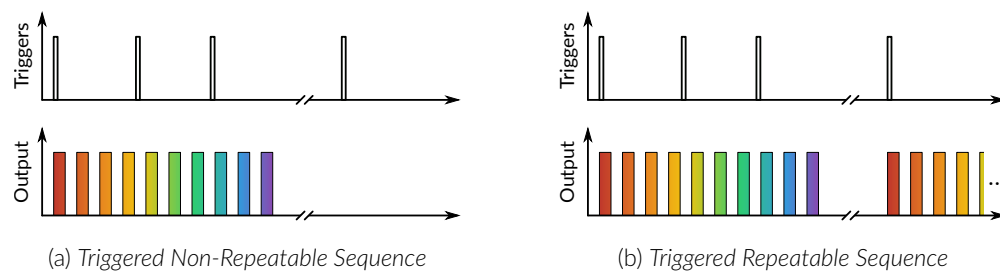

Figure 4.8: Uninterrupted Sequence Mode
- **Uninterrupted:** This mode activates the channel sequence when an input greater than 3.3 V is detected by the BNC input. Following input pulses will be ignored while the sequence is running (Fig. 4.8). When the **Repeatable sequence** checkbox is checked, the sequence will restart with the arrival of the first input pulse after the sequence has finished (Fig. 4.8b). This mode is available for *Triggered* pulse only.